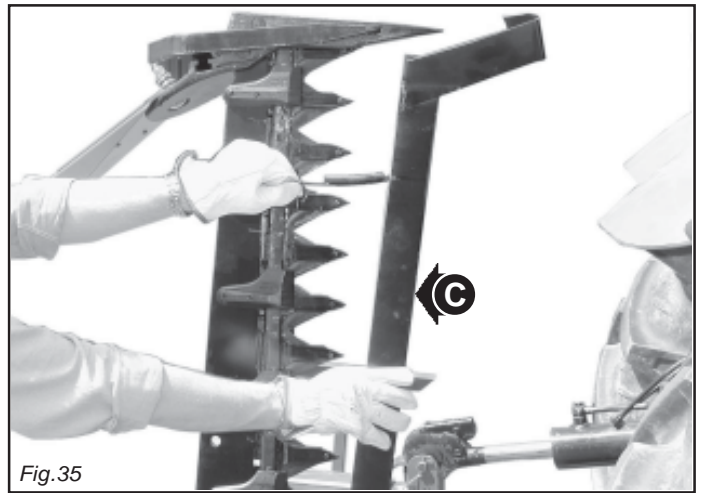

Fig. 35
- Fit the guards over the cutters and outer skid (C, Fig. 35)